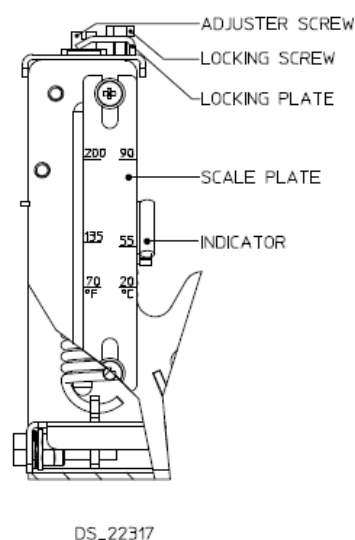

Fig. 4 - Set Point adjustment
3. Rotate the adjuster screw to move the indicator along the scale (see Fig. 4). Rotate counter-clockwise to increase the set point and clockwise to decrease the set point.